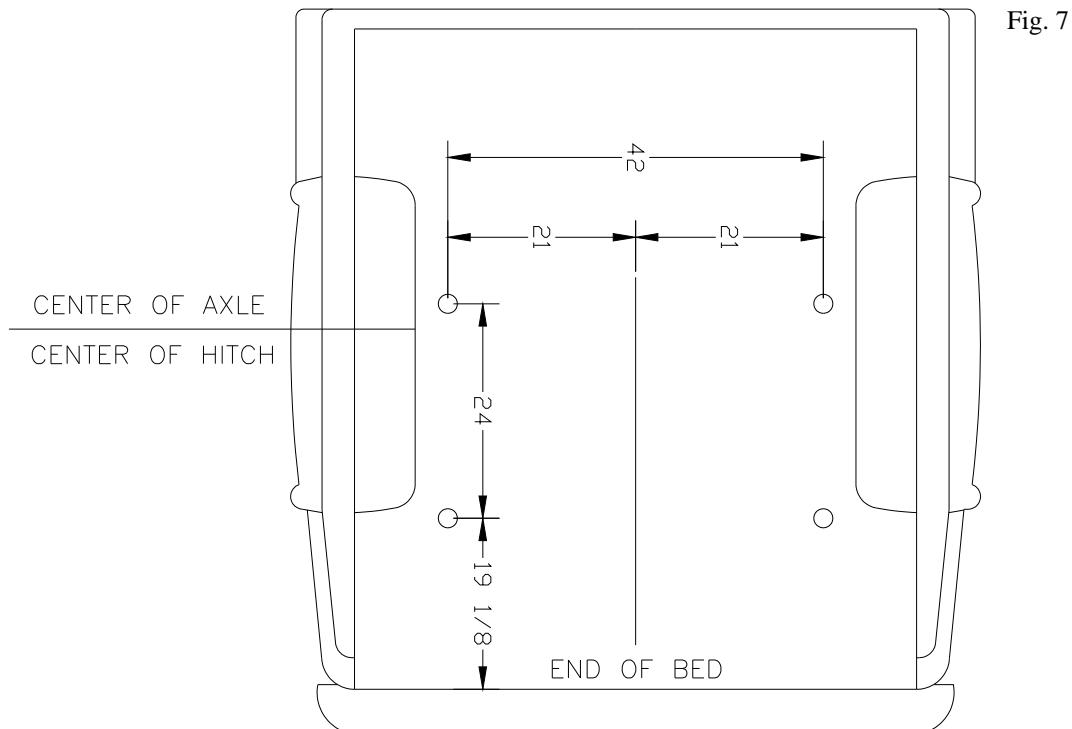

Fig. 7
- 1) Insert the four Mounting Posts P/N: 351505 into each Mounting Post Holder and rotate 90 degrees, see figure 17. Bump the Mounting Post Holders in or out so that the Mounting Posts are as close to center of the bed hole as possible. You should measure the distances between each Mounting Post (see fig. 7 on page 7) so that they are positioned properly.